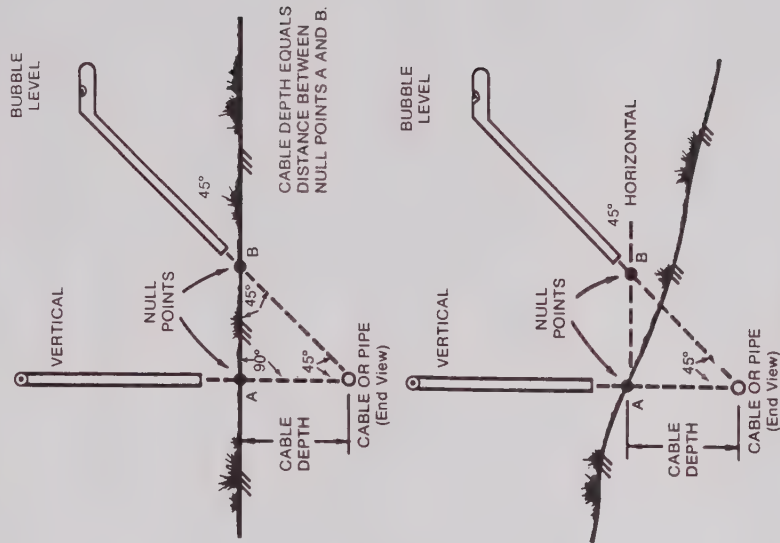

Figure 2-8.
5. Hold the snooper probe vertically (see Figure 2-8) and locate the NULL directly above the cable or pipe. Mark this spot as NULL point A.
6. Hold the snooper probe at a 45 degree angle (see Figure 2-8), using the bubble level located on the handle of the snooper probe. Move the snooper probe on a horizontal line away from NULL point A and at right angles to the path of the cable or pipe until a NULL is found. This is NULL point B.
7. The depth of the cable or pipe beneath NULL point A (see Figure 2-8) is the same as the distance between NULL points A and B.